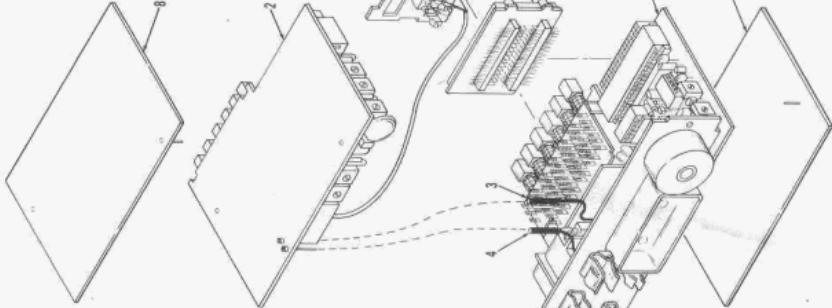
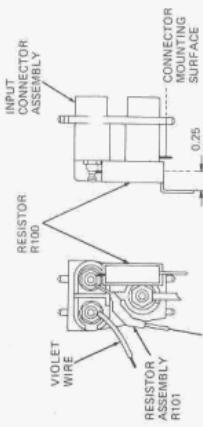

Figure 2-3. Printed Circuit Boards Removal
Figure 2-4. Input Connector Assembly Removal
- (1) Unsolder and disconnect violet wire (fig. 2-4) from lug of top, inner fuse clip on rear circuit board.
- (2) Pull free end of violet wire through fuse clip eyelet.
- (3) Unsolder leads of resistors R100 and R101 at range circuit board (do not disconnect leads at this time).
- (4) Unsolder the single lug of input connector assembly at range circuit board; then lift input connector assembly with attached parts from component side of range circuit board.
- (5) Unsolder and remove the violet wire and resistors R100 and R101 from top lug of input connector assembly.
- a. Removal. Remove the circuit boards in accordance with fig. 2-3 and the following procedures:
(1) Connect one lead of resistor assembly R101 to input connector lug shown in fig. 2-4.
(2) Form a 0.25 inch offset in one lead of resistor R100; then connect the other lead to indicated input connector lug. Be sure the 0.25 inch portion of R100 lead does not extend below connector mounting surface. Solder resistor leads to input connector lug.
(3) Connect and solder one end of violet wire to remaining top lug of input connector.
(4) Pass free leads of resistors R100 and R101 through respective holes in component side of range circuit board; then press lugs of input connector assembly into mounting holes in range circuit board.
(5) Solder leads of resistors R100 and R101, and single metallic lug of input connector assembly, to range circuit board.
(6) Pass free end of violet wire through eyelet of top, inner fuse clip on rear circuit board. Then connect and solder the violet wire to the fuse clip lug.
e. Installation. Install the circuit boards in accordance with fig. 2-3 and the following procedures: